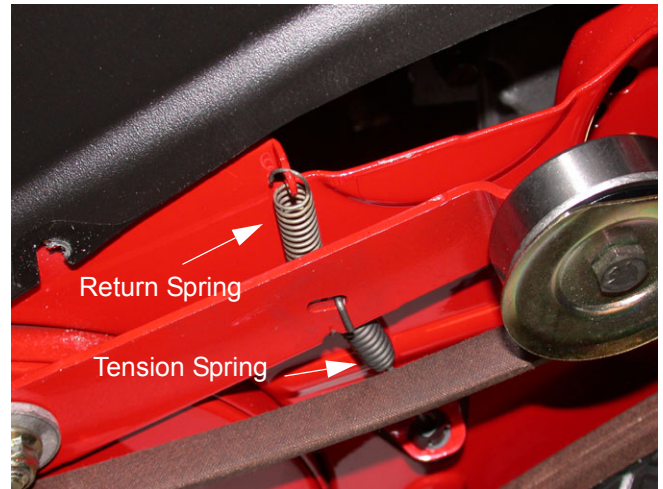

Figure 9
8.3. Inspect the idler bracket tension and return springs and note location of connections. See Figure 9.